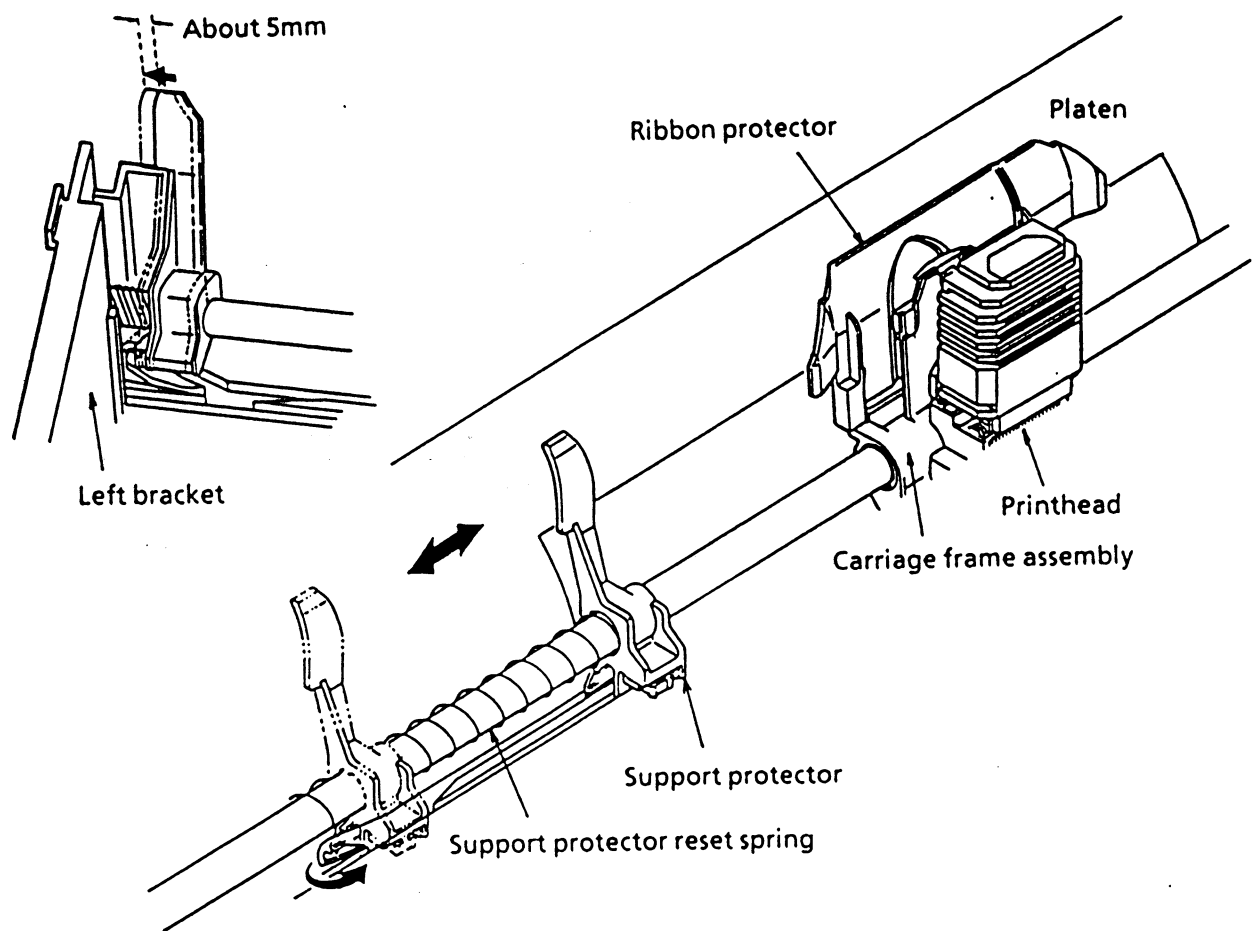

Figure 3-16
(4) Top line print mechanism (See Figure 3-16)